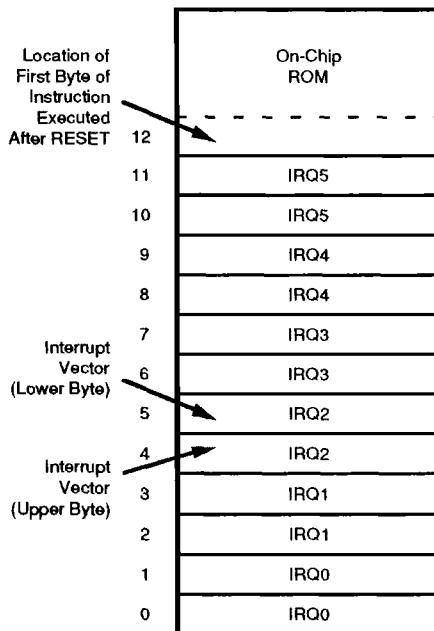

Figure 6. Program Memory Map
**Program Memory.** The Z86C30 can address up to 4K bytes of internal program memory (Figure 6). The first 12 bytes of program memory are reserved for the interrupt vectors. These locations contain six, 16-bit vectors that correspond to the six available interrupts. Byte 13 to byte 4095 consists of on-chip mask programmable ROM.